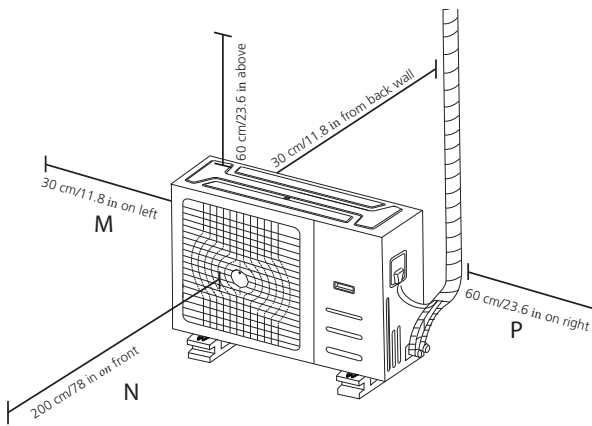

Fig. 5.10
**NOTE:** The minimum distance between the outdoor unit and the walls described in the installation guide does not apply to airtight rooms. Be sure to keep the unit unobstructed in at least two of the three directions (M, N, P). (See Fig. 5.10)